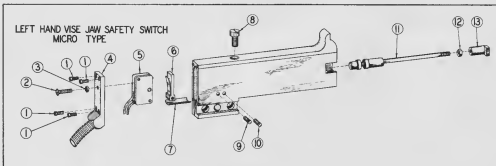
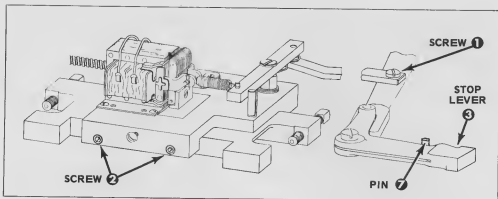

FIGURE 6
FIGURE 7
#### THE ELECTRO PUMP STOP SAFETY ADJUSTMENT OF THE L.H. VISE JAW SAFETY SWITCH (See Figure 6)
#### REPLACEMENT OF L.H. VISE JAW SAFETY SWITCH (See Figure 6)
Remove screw (1) from right hand end of operating lever. (Figure 7) Loosen two Allen screws (2) on the bracket and unit can be lifted from machine for cleaning or servicing.
To adjust—press the switch operating rod (13, Figure 6) in the left hand vise jaw, which closes the solenoid. Then adjust by sliding the entire solenoid and bracket unit back and forth until the stop lever (3, Figure 7) clears the stop block on the pot pump lever. Tighten the two Allen screws and recheck clearance. While this adjustment is not critical, care should be exercised to prevent excessive motion of the stop lever, so it does not strike the stop pin (7) on the pump stop bracket. The solenoid must close completely, or a hum and damage will occur.
The Electro-Pump Stop consists of the left hand vise jaw, containing a microswitch and its adjusting mechanism, and a solenoid with its mechanism for the operation of the pot pump stop lever. (See Figures 6, 7, and 8)